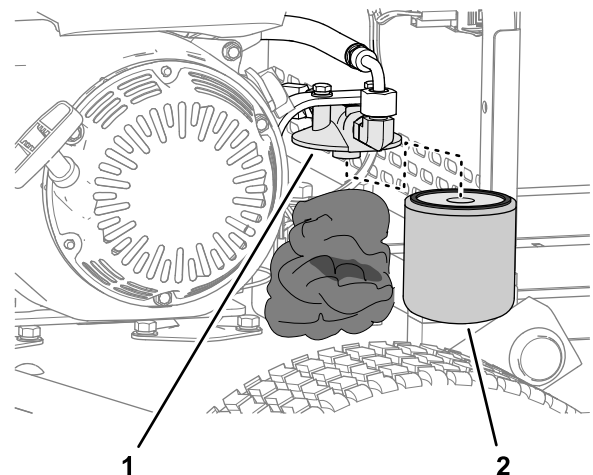

Figure 38
2. Pack rags under the hydraulic filter (Figure 38).
3. Carefully remove the hydraulic filter (Figure 38).
5. Install the filter onto the filter head by hand (Figure 38) until the gasket contacts the filter head, then tighten the filter 3/4 turn further.